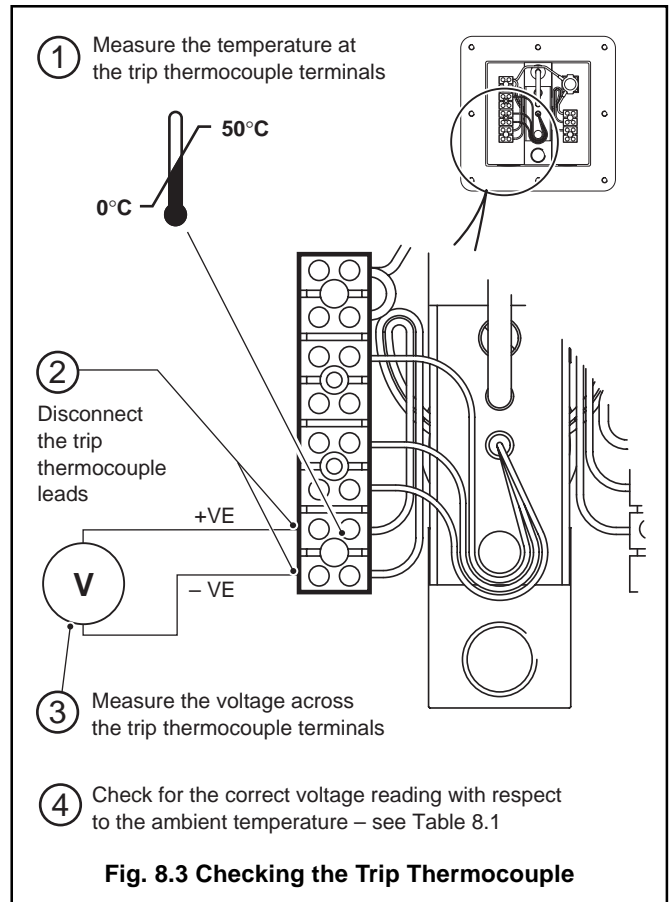

Fig. 8.3 Checking the Trip Thermocouple
8.2 Checking the Trip Thermocouple – Fig. 8.3
- b) Check the trip thermocouple voltage as shown in Fig. 8.3.